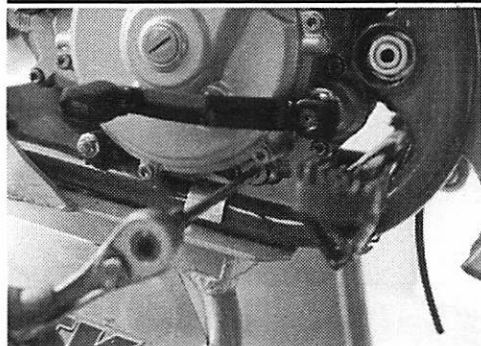

Figure 4.1
1. Remove the oil drain plug under the lower rear of the clutch cover (under the shift lever) using a 6 mm Allen wrench. (Figure 4.1)